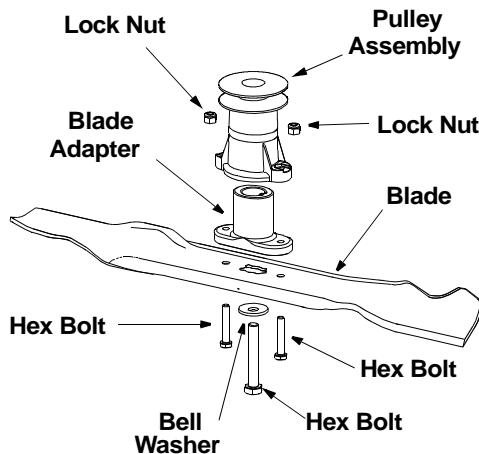

Figure 16
- Remove the bolt and bell washer which hold the blade-pulley assembly to the engine crankshaft. See Figure 16. Remove assembly from crankshaft.
- Install the blade adapter on the pulley with the “star” away from the pulley. See Figure 16.
- Install the blade assembly on the crankshaft. See Figure 16. Secure with the hex bolt and bell washer (cupped side of washer to blade) and tighten to the recommended torque. Refer to ‘Blade Mounting Torque’ section on this page.